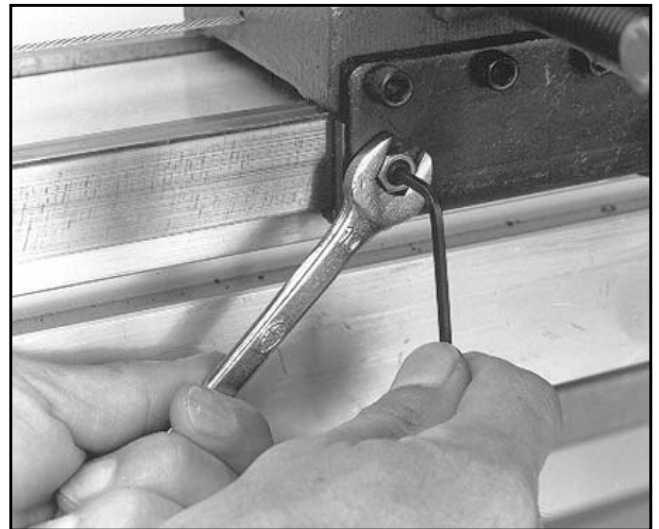

Figure 9. Adjusting the gib tightness.
3. When adjustments are complete, tighten the lock nuts while maintaining the setscrew position with the Allen® wrench. **See Figure 9.** Re-test after tightening.